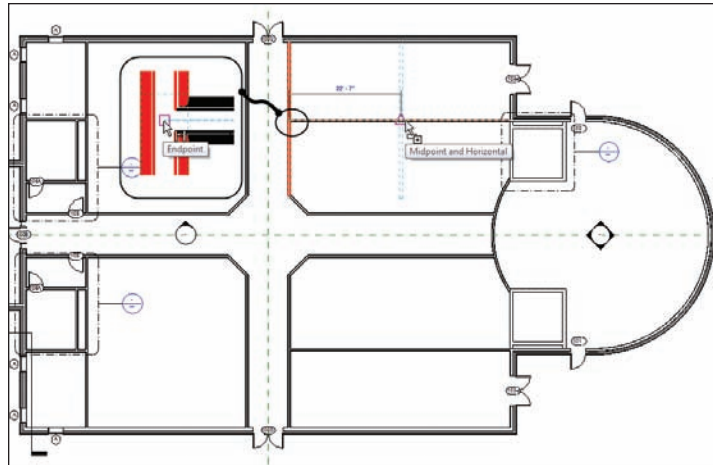

FIGURE 4.4 Creating a copy of the corridor wall
2. Zoom in so you are focused on the east wing in its entirety, as shown in Figure 4.4.
3. Pick the corridor wall, as shown in Figure 4.4.
5. Zoom in on the wall close to the midpoint of the selected wall and the intersection of the horizontal wall that divides this portion of the building (see Figure 4.4).
You will now see that you are snapped to the endpoint of the horizontal wall. After you see this, pick the point (see Figure 4.4).